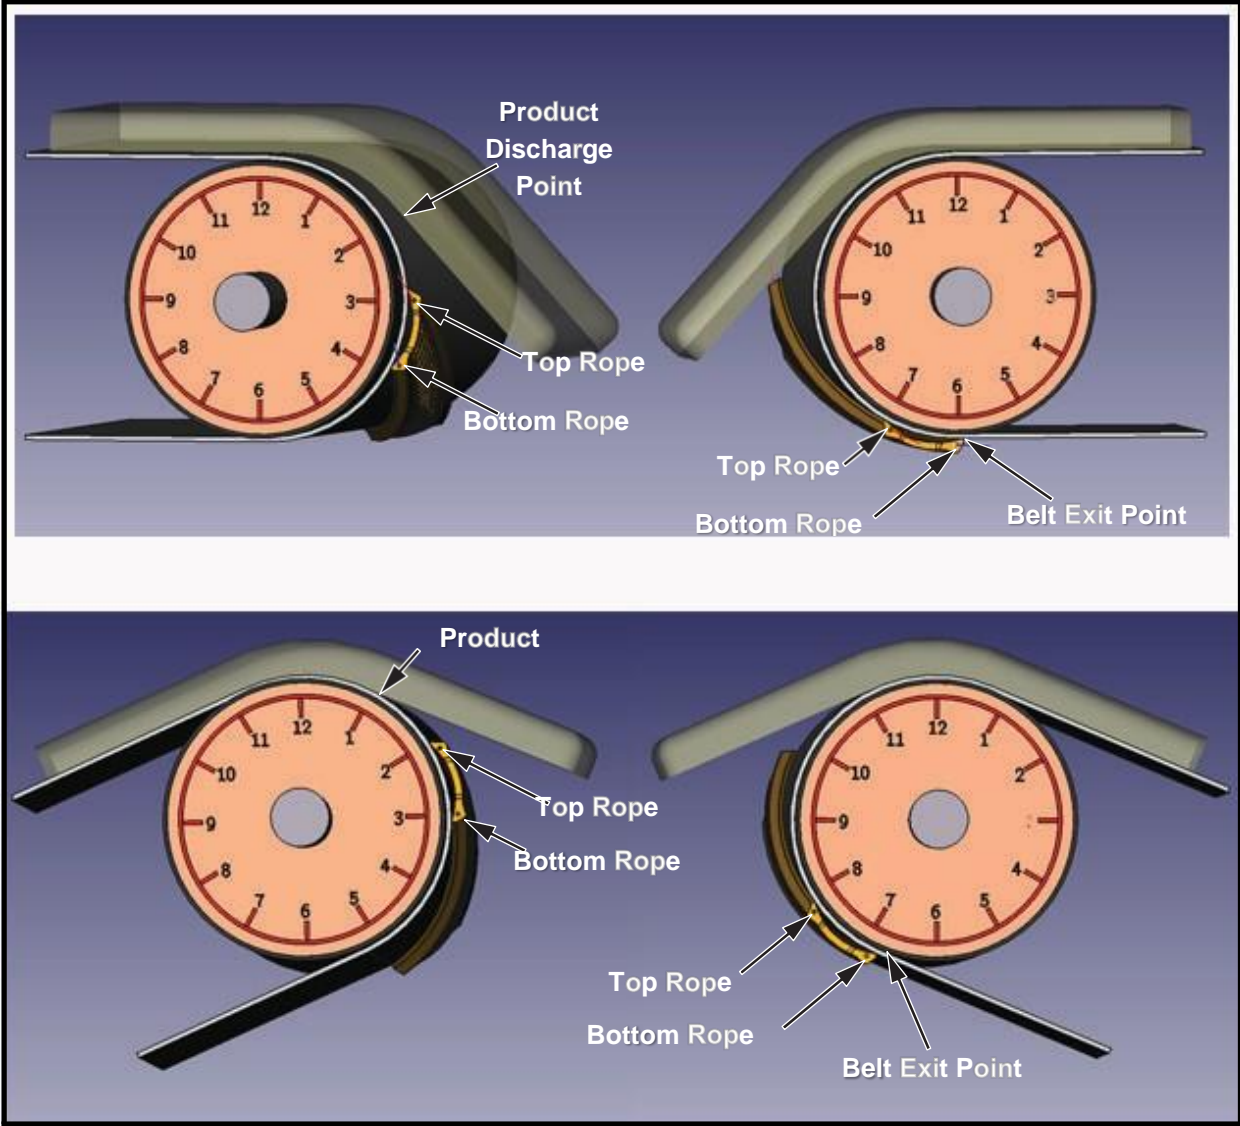
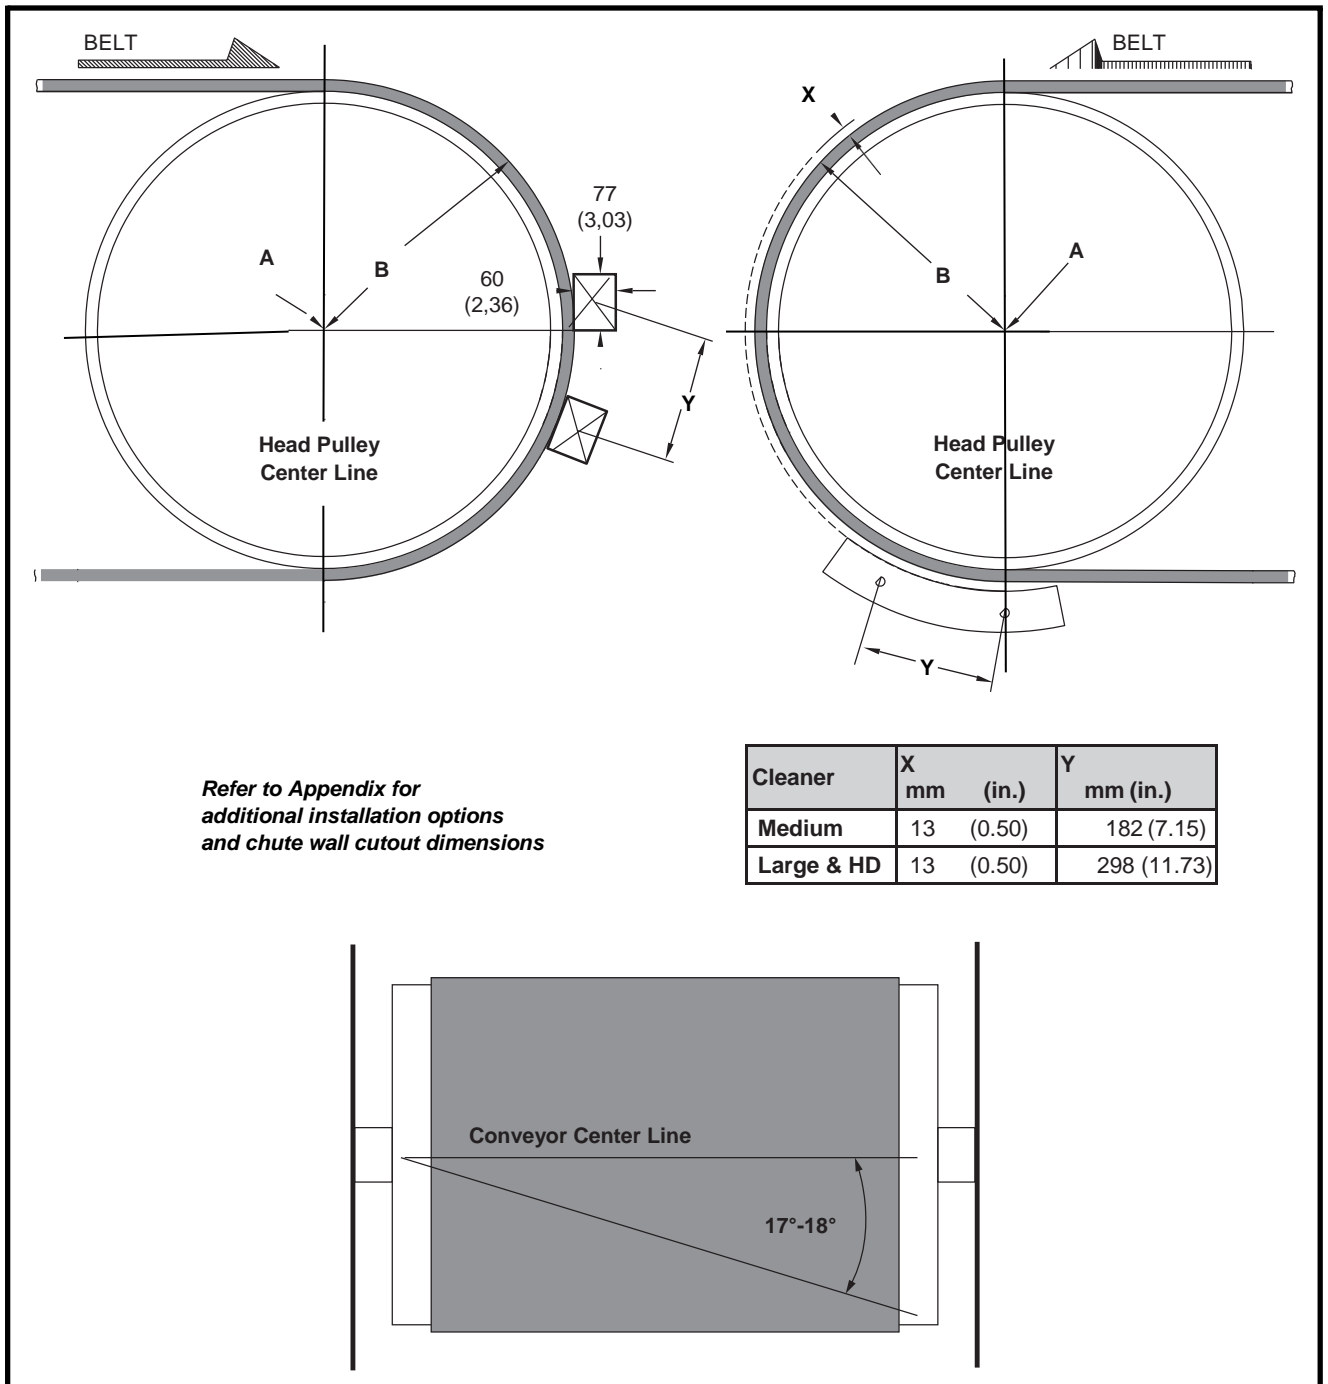

Figure 2: Typical Belt Cleaner Mounting Positions
Figure 6: Belt Cleaner Location & Chute Wall Cutouts
1. On both sides of chute, find pulley center point (A).
2. Measure radius of head pulley including lagging and belt thickness (B). To this dimension, add dimension X from Figure 6.
3. On the far side of chute, start from center point (A), measure the total distance calculated in step 2 ( $B + X$ ), and draw an arc on chute wall.
4. On the operator side of chute, start from center point (A), draw an arc on chute wall with a radius of (B).
- a) Draw a centerline of the head pulley perpendicular to the conveyor belt line (see Figure 6). Rotate the bottom side mount back as far as possible in order to achieve at least 17° of belt wrap while not exceeding the belt exit (see Figures 2 & 3).
- (1) Position fixed point bracket on far side chute wall as shown in Figure 6 (centerline install is used as an example).
- (2) Mark bracket hole locations.
- (3) Drill or cut two 13 mm (1/2-in.) holes for screws in far side chute wall.
- (4) Mount fixed point bracket to inside of far side chute wall using countersunk screws (B) and nuts.
- (2) Weld bracket to chute wall. Weld completely around bracket. Do not skip weld
- b) Draw a line at 17° from bottom hole of bottom bracket to location of bottom hole on top bracket, or utilize a string or elastic band to locate proper angle. Attach string to bottom hole on bottom bracket and hold it to head pulley centerline at 6:00 o'clock position on opposite chute, check angle, adjust angle to stay below product discharge point (see Figures 2 & 3). Mark location for bottom hole of top side tensioner.
- c) Position weld plate as shown in Figure 6. The edge of the cutout should be tangent to the belt edge. Mark chute wall cutout as shown in Figure 6.
- d) Mark upper bracket chute wall cutout as shown in Figure 6. Dimension Y is equal to the distance between mount holes on far side bracket.